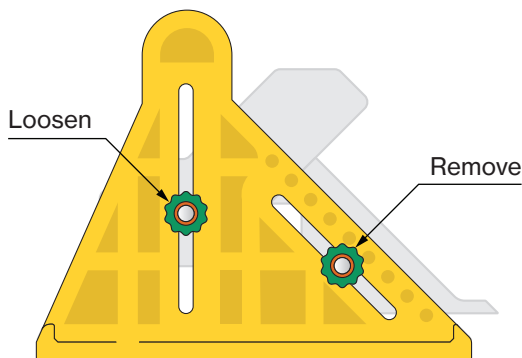

Fig 5a - Remove P3 knob, loosen P2 knob.
- E.1.** Remove the green knob from the back of P3 and loosen the knob on P2 without removing it [Fig 5a].